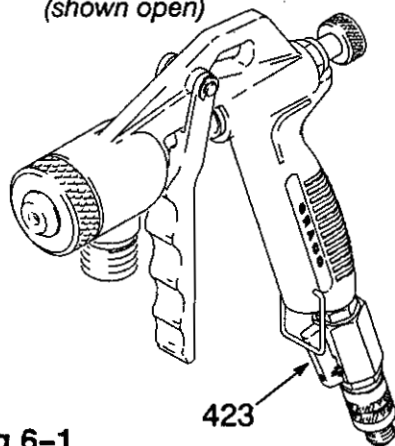

Fig 6-1
1. **The system will not start unless the compressor air has been relieved!** Be sure the gun air valve (423) is open (handle parallel to valve body), which relieves compressor air, every time you shut off the system. See Fig 6-1.
2. Air bleeds from the gun nozzle whenever the gun air valve (423) is open. Close the valve to stop the air, if desired. Otherwise, it can stay open except during priming. See Fig 6-1. See page 8 for more gun characteristics.